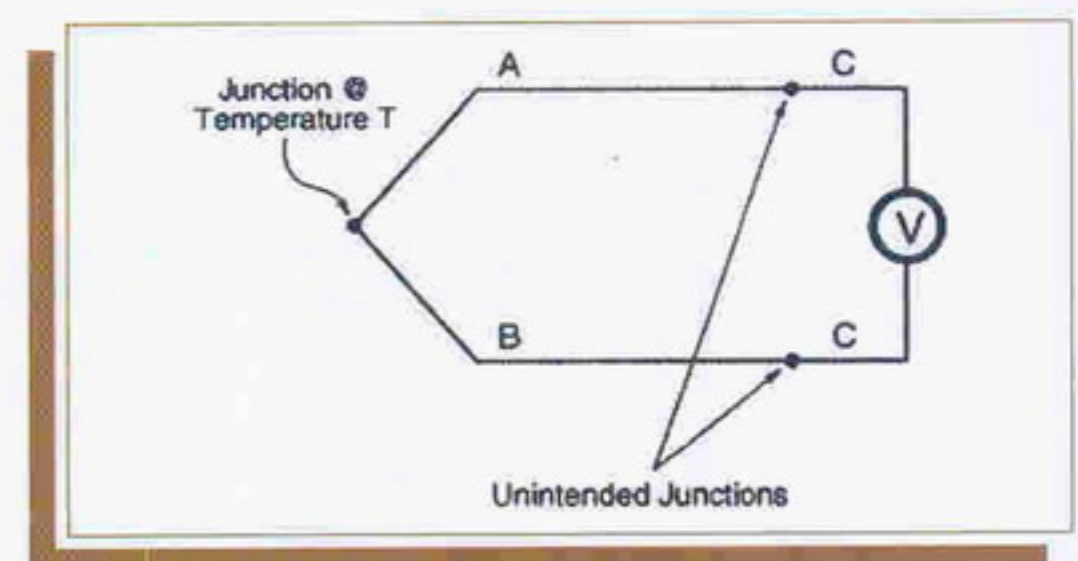

FIG. 24
A problem arises when measuring the voltage across a dissimilar metal junction -two additional thermocouple junctions form where the wires connect to the voltmeter (Figure 24). If the wire leads which connect to the voltmeter are made of alloy "C", then there exist thermal EMFS at the A-C and B-C junctions. There are two approaches to solve this problem: use a reference junction at a known temperature, or make corrections for the thermocouples formed by the connection to the voltmeter.
The second approach to the problem relies on the fact that the 'voltage across the junction A-C plus the voltage across the junction C-B is the same as the voltage across a junction of A-B. As long as all the junctions are at the same temperature, the presence of an intermediate metal (C) has no effect. This allows us to correct for the voltage seen by the voltmeter in Figure 24 by measuring the temperature at the A-C and B-C junctions and subtracting the voltage which we would expect for an A-B junction (at the measured temperature). In the SR630 the temperature of the A-C and C-B Junctions are measured with a low cost, high resolution semiconductor detector, and the subtracted voltage is the tabulated voltage of the A-B thermocouple at the measured temperature of the A-C and C-B junctions. The advantage of this method is that any type thermocouple may be used without having to change compensation